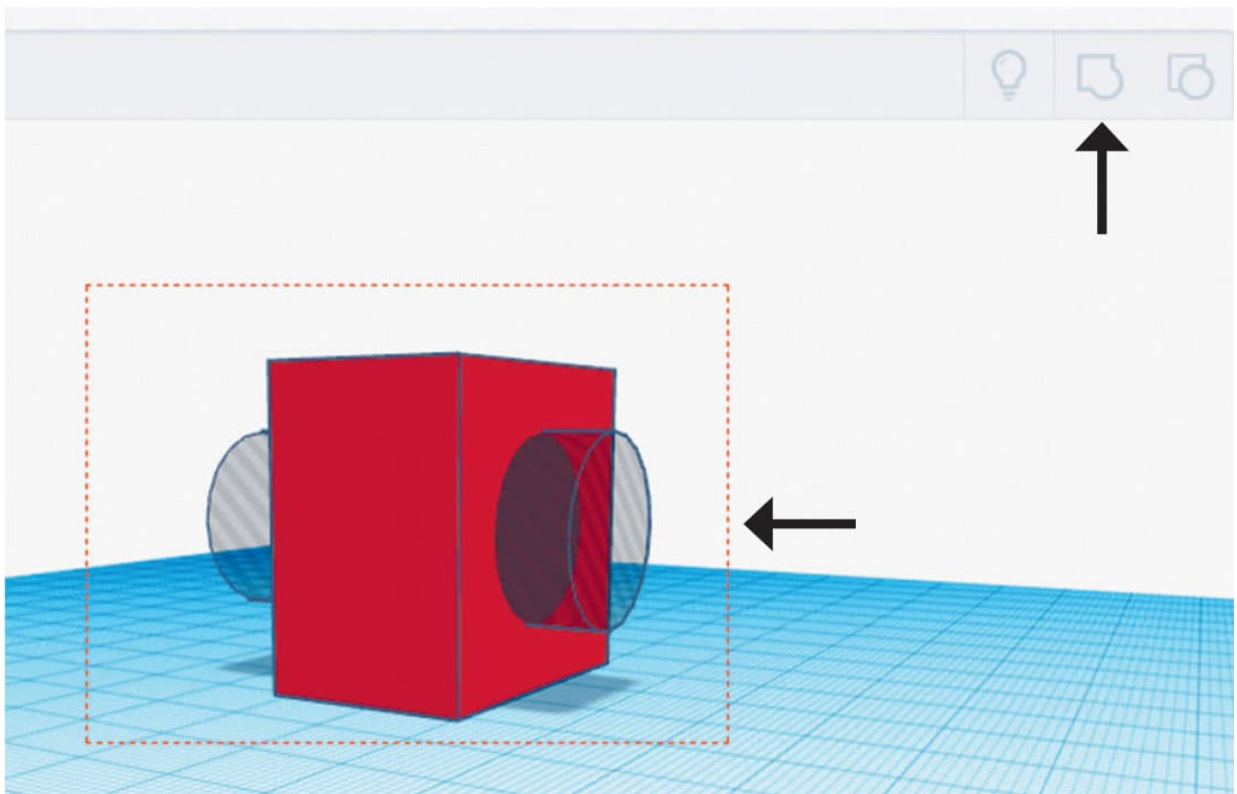
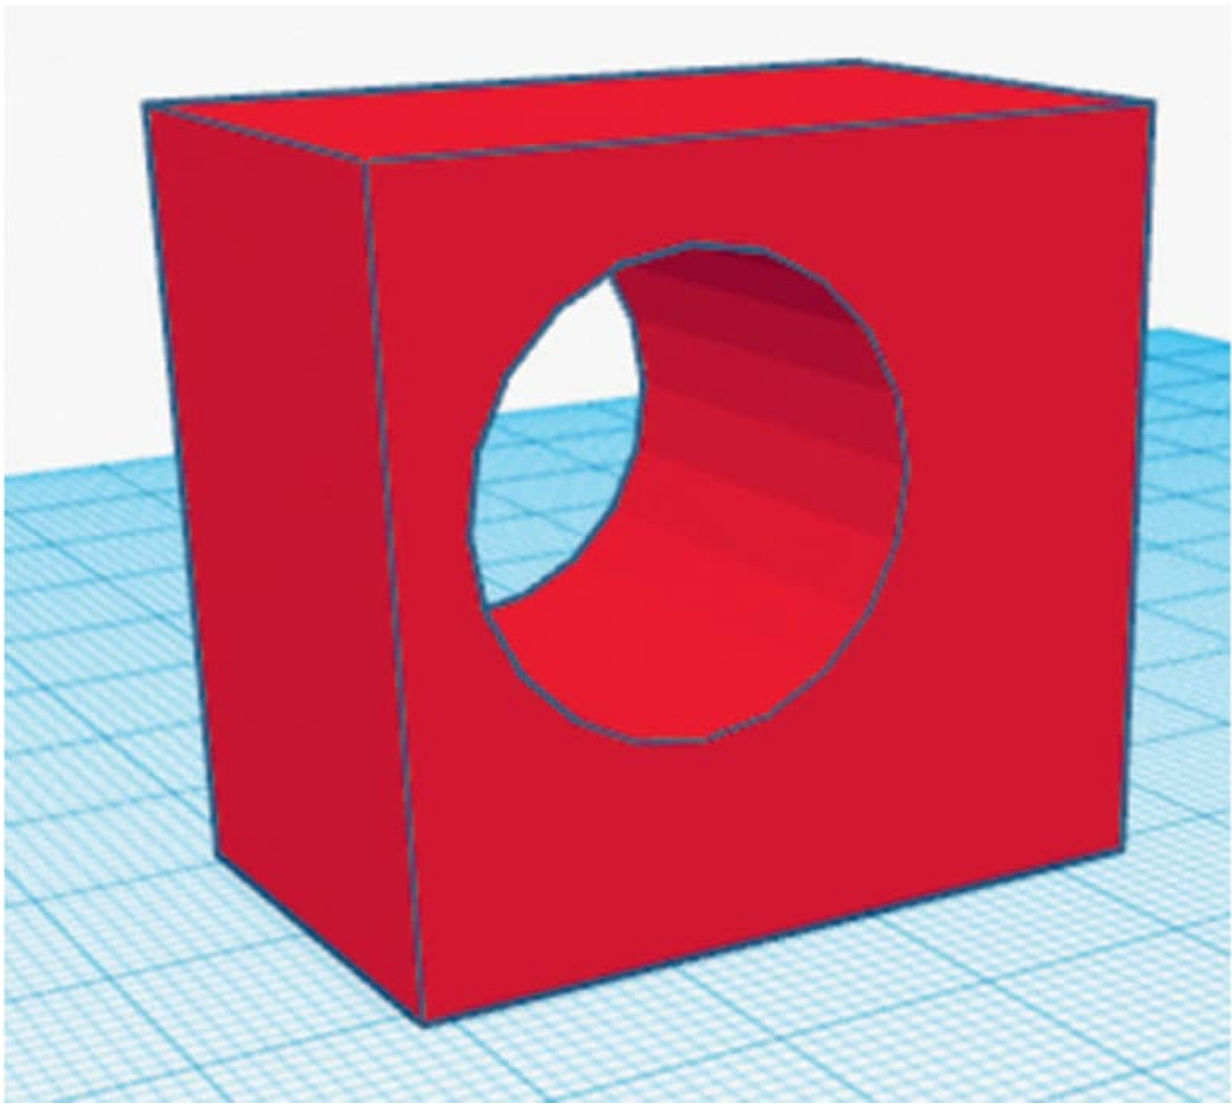

FIG. 4: Group the cylinder hole and the cube.
FIG. 5: *Now there is a round hole created in the solid cube.*
5. Select both objects and click the **Group** button (fig 4). This will merge the hole into the solid object, creating a hole in the solid object (fig. 5).